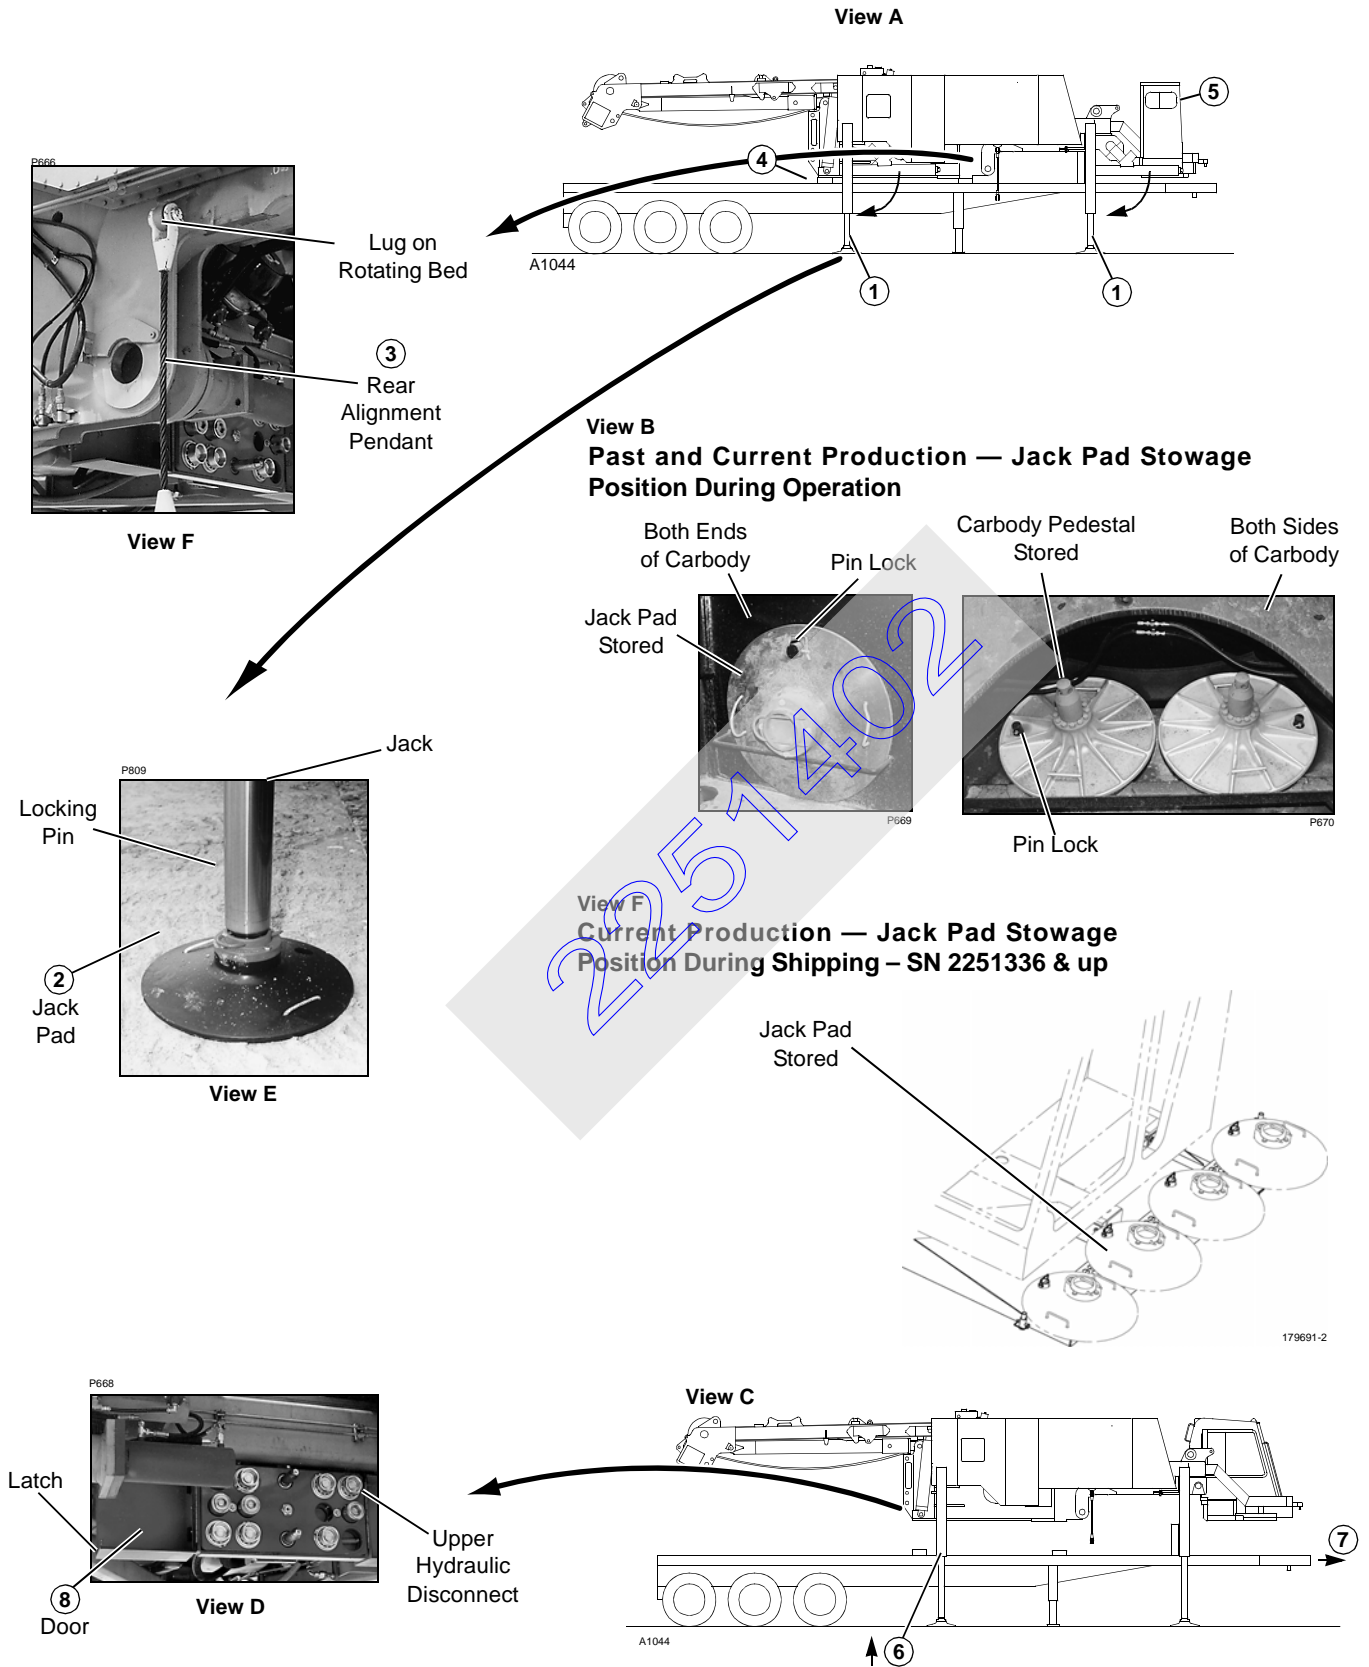

FIGURE 4-8
NOTE: Circled numbers in Figure 4-8 correspond to numbered procedure steps.
2. Remove jack pads from storage (Figure 4-8, View B) and fasten to jacks (View E).
3. Pin rear alignment pendants to lugs on rotating bed (Figure 4-8, View F).
6. Fully extend jacks to lift rotating bed off trailer (Figure 4-8, View C).
8. Unlatch and open doors covering upper hydraulic disconnect (Figure 4-8, View D).
13. Remove four carbody pedestals from storage (Figure 4-8, View A) and place under support pads of carbody (Figure 4-13, View A).
18. Turn on engine and retract both **front** jacks, remove and store jack pads (Figure 4-8, View A), and rotate jacks to horizontal "wing" position (Figure 4-13, View D). **Don't swing jack inward.**